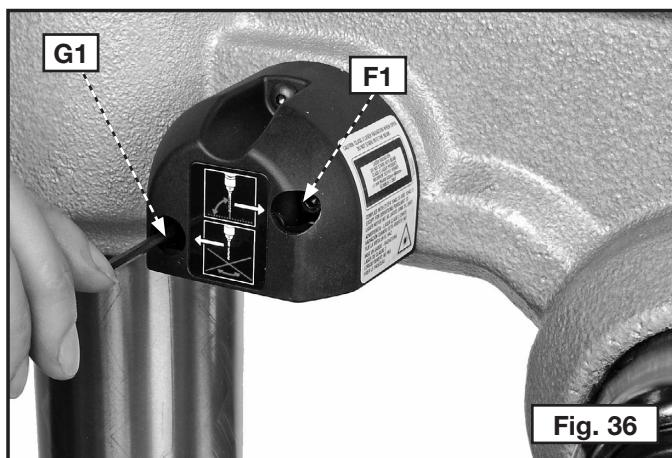

Fig. 36
2. Repeat this step for the left laser pod and its line using its front screw (F1) Fig. 36.